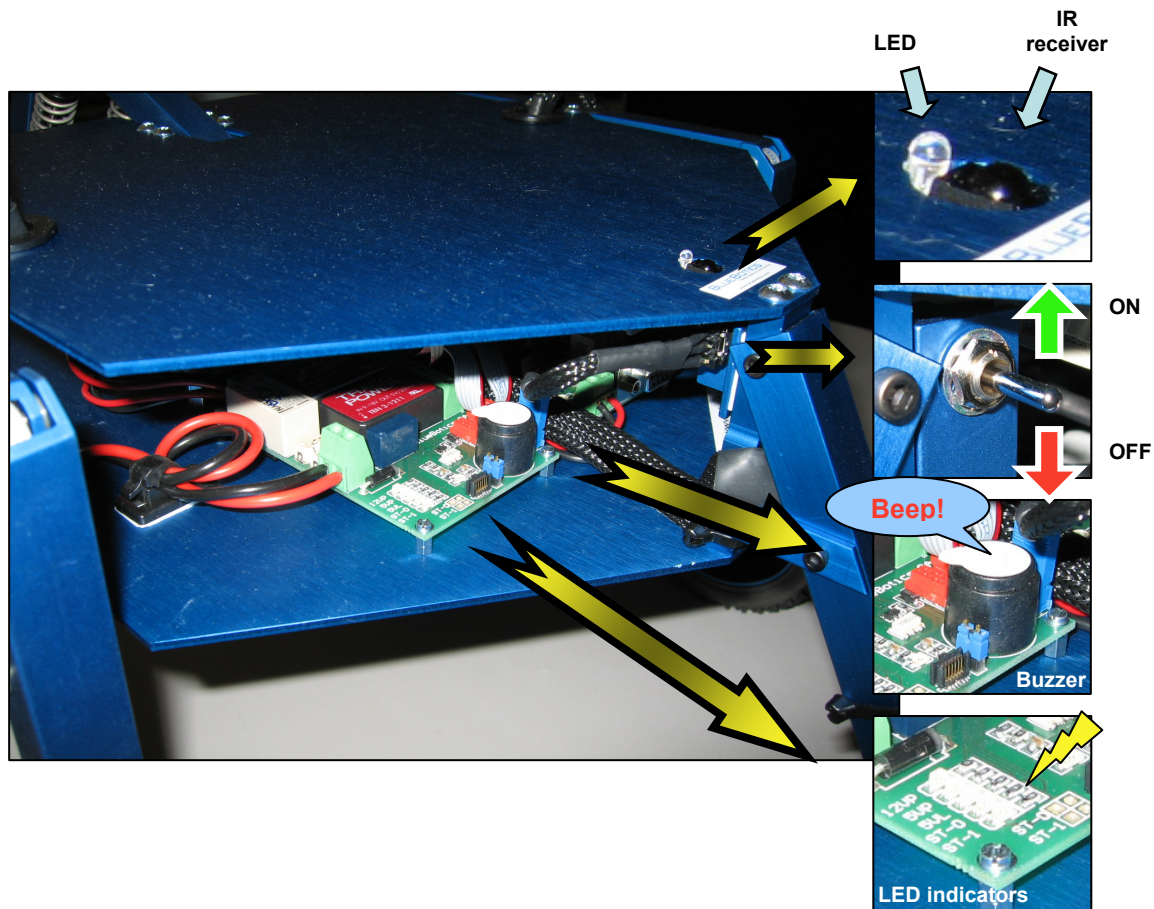

Fig. 2: Position of the IR receiver, the ON/OFF switch, the buzzer and the battery indicator
The Shrimp can be driven by hand with a standard infrared remote control. Point the remote control to the receiver (shown in fig.2) from a maximum of 4 m.
The master controls the power supply module. When the Power Switch is ON (Fig.2), the power supply is connected to the battery and measures its voltage. If the voltage is correct, the robot can be used.
The LEDs placed on the power supply module (see Fig.2) indicate the state of the power supply and of the battery. The buzzer will also act as an audible indication, to inform the user of the state of the system.
LEDs are placed on the power supply module as can be seen on Fig.2.
- Switch on the main power supply (fig.2).